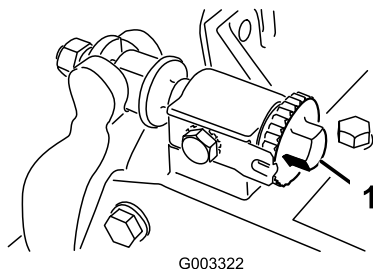
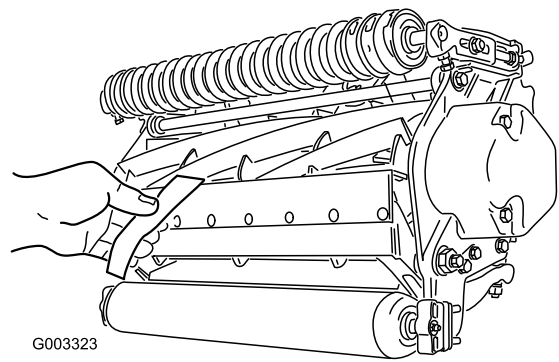

Figure 8
Figure 9
1. Position machine on a flat, level work surface. Make sure reel contact is removed by turning bedbar adjusting screws counterclockwise (Figure 8).
Important: Make sure nuts on back end of bedbar adjusting screws are not resting on the work surface (Figure 8).
3. At one end of reel, insert a strip of newspaper between reel and bedknife (Figure 9). While slowly rotating reel forward, turn bedbar adjusting screw (Figure 8) clockwise (on same end of reel, one click at a time, until paper is pinched lightly, when inserted from the front, parallel to the bedknife. A slight drag will be noted as the paper is pulled.
5. After adjustment is accomplished, check to see if reel can pinch paper when inserted from the front and cut paper when inserted at a right angle to the bedknife (Figure 9). It should be possible to cut paper with minimum contact between the bedknife and the reel blades. If excessive contact/reel drag is evident it will be either necessary to back lap or regrind the cutting unit to achieve the sharp edges needed for precision cutting (Refer to the Toro manual for Sharpening Reel and Rotary Mowers, Form No. 80-300PT).